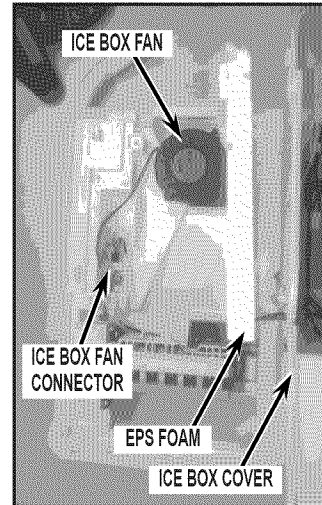

FIGURE 14
17. Use a straight blade screw driver to remove 5, 1/4" screws securing the ice box cover to the ice box assembly. Remove ice box cover and EPS foam piece enough to expose ice box fan and wiring connections. See *Figure 14*.